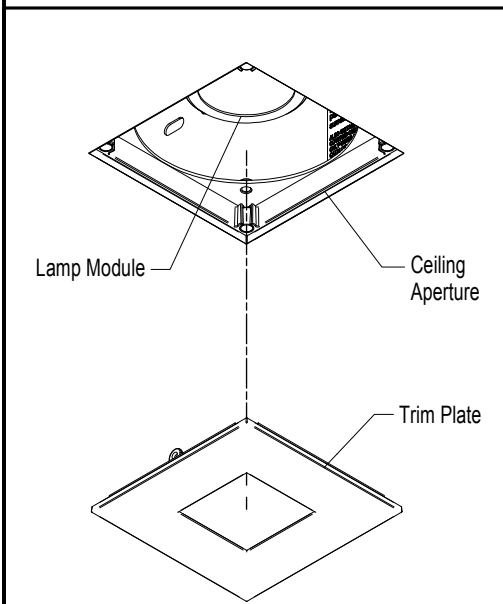

FIG. 2.1 Remove Trim Plate
Step 1 Remove Trim Plate & detach from cable clip - Fig 2.1.